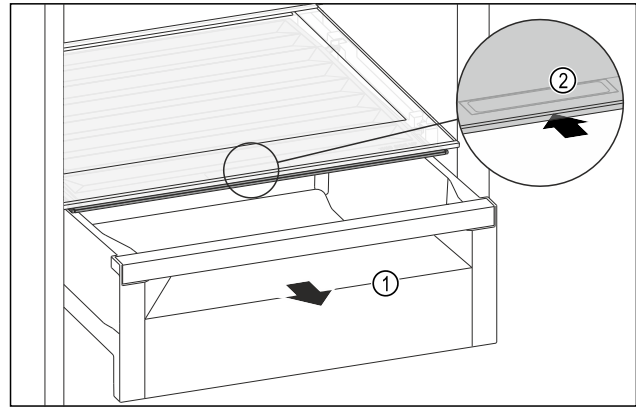

Fig. 145
- Pull out the drawer *Fig. 145 (1)*.
- Grip the handle recess *Fig. 145 (2)* on the lid while pulling the lid backward at the same time.